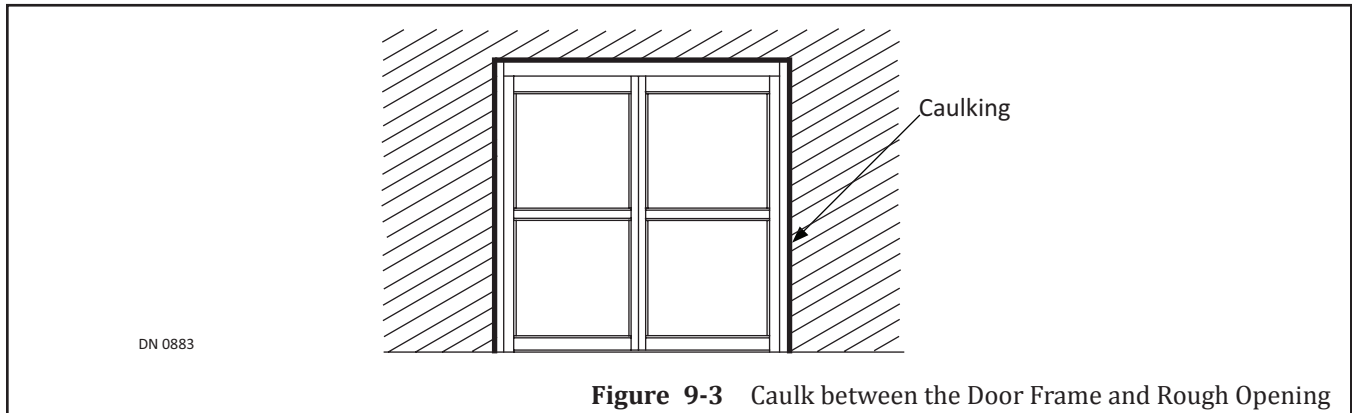

Figure 9-3 Caulk between the Door Frame and Rough Opening
2. Apply caulking bead between the Door Frame and Rough Opening (inside and outside). Please see Figure 9-3.